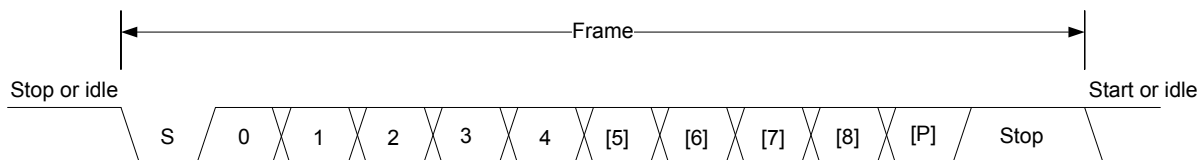

Figure 18.2. USART Asynchronous Frame Format
The frame format used in asynchronous mode consists of a set of data bits in addition to bits for synchronization and optionally a parity bit for error checking. A frame starts with one start-bit (S), where the line is driven low for one bit-period. This signals the start of a frame, and is used for synchronization. Following the start bit are 4 to 16 data bits and an optional parity bit. Finally, a number of stop-bits, where the line is driven high, end the frame. An example frame is shown in Figure 18.2 USART Asynchronous Frame Format on page 607.